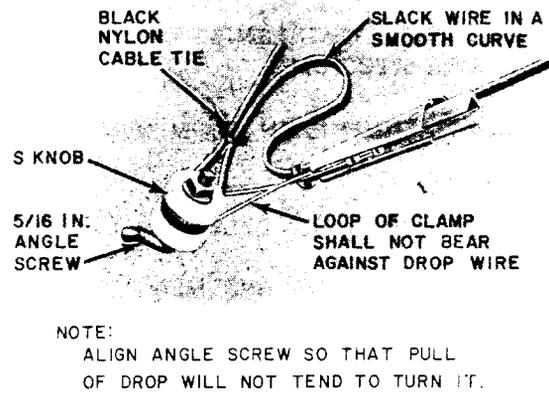

Fig. 1—First Attachment—Angle Screw Drop Wire Run in Horizontal Direction on Building (Right)
3.01 Typical first attachments to buildings and steel structures are shown in Fig. 1 through 15. Tables A, B, C, and D list fastening devices of first attachments used on various surfaces.